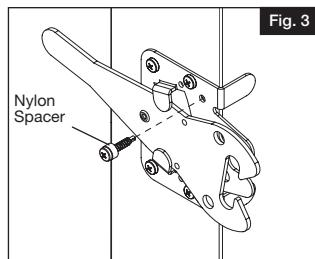

Fig. 3
- e. Place a screw through the nylon spacer and attach to top forward hole (Fig. 3). This will stop the arm from pivoting too far.